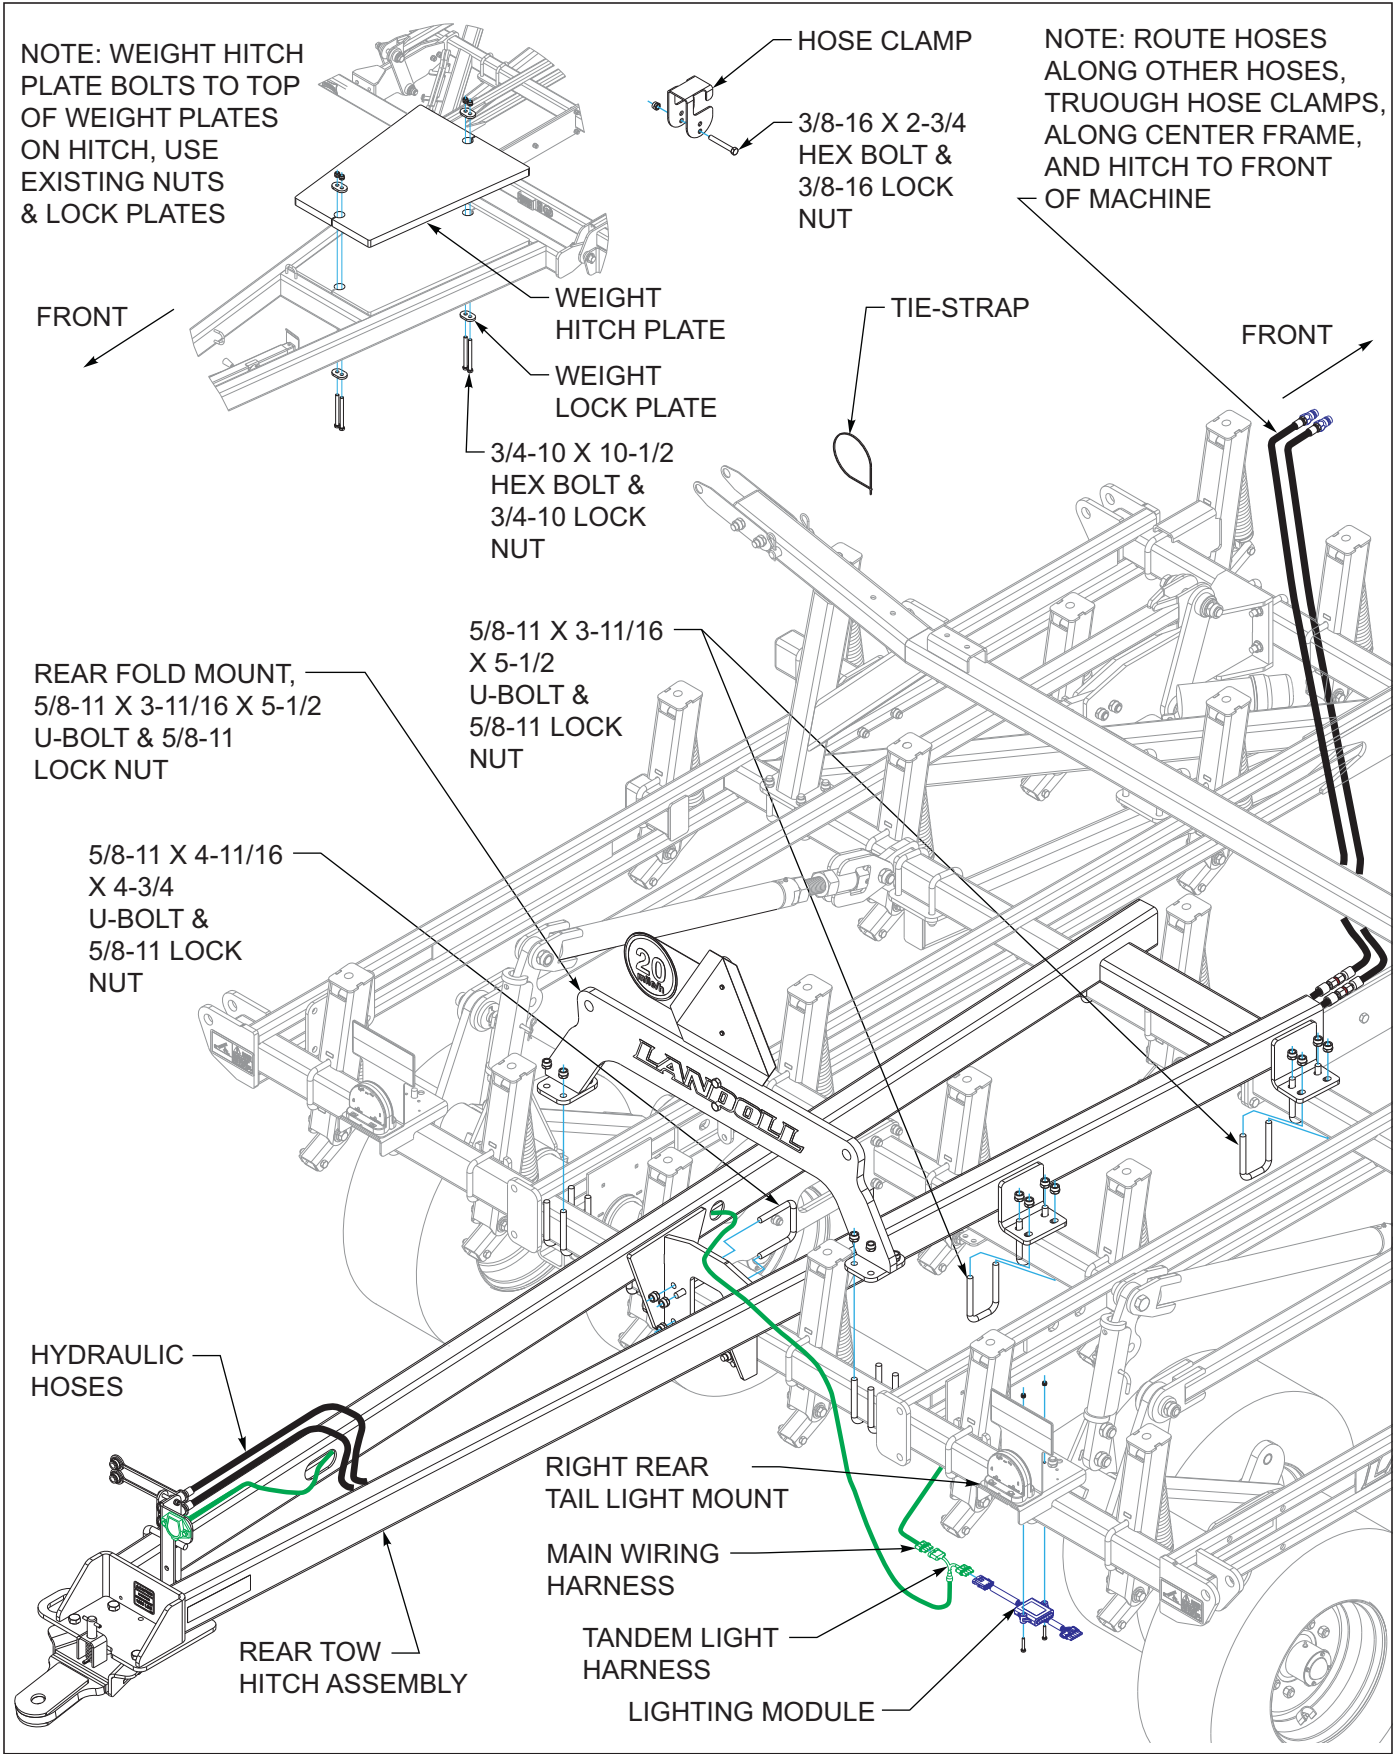
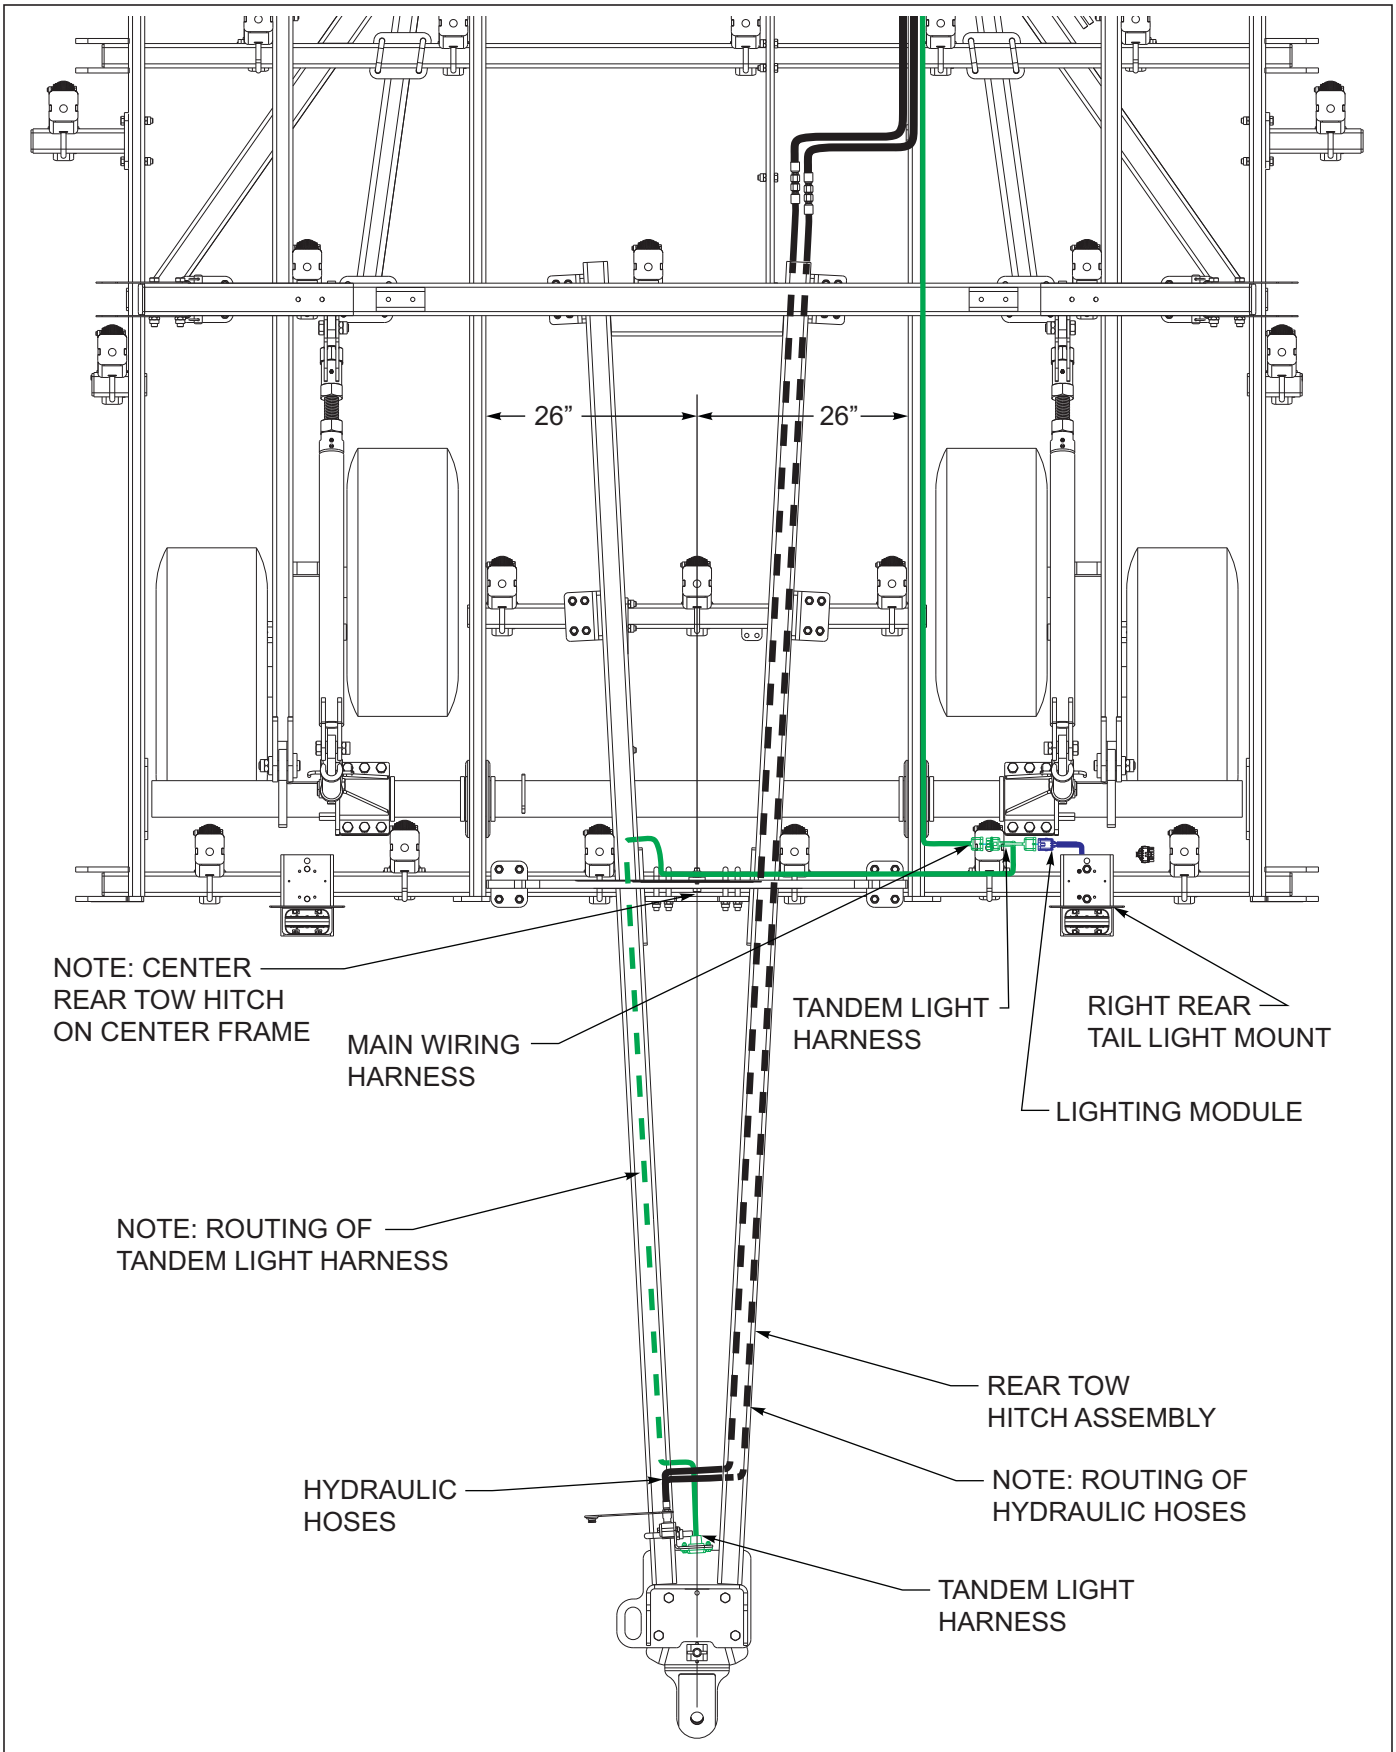

Figure 3-33: Rear Tow Hitch Installation
Figure 3-34: Rear Tow Hitch Layout
2. Remove the 3/4-10 x 8-1/2 hex bolts and 3/4-10 lock nuts from weight hitch plates *See Figures 3-33*.
8. Center the rear tow hitch assembly on center frame *See Figures 3-34*, tighten all u-bolts to secure hitch.
10. Route the tandem light harness connector across the rear frame bar to the right rear tail light. Unplug the existing four-pin main wiring harness from the lighting module. Connect the rear tow hitch harness between the lighting module and the main wiring harness *See Figures 3-33* and *See Figures 3-34* for proper hose and light harness routing.